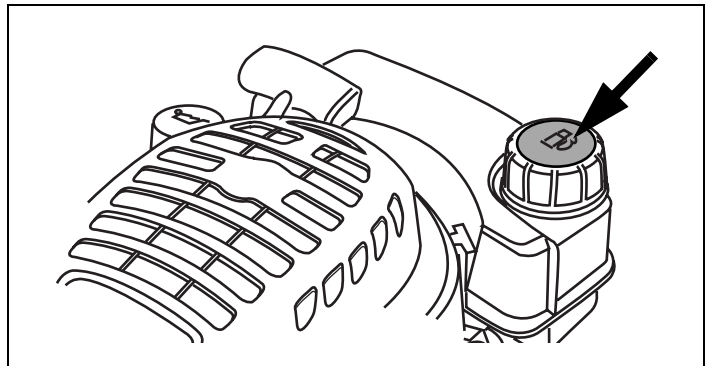

Figure 32. Gas Cap
2. Be sure gas cap is on and tightened securely. See Figure 32.